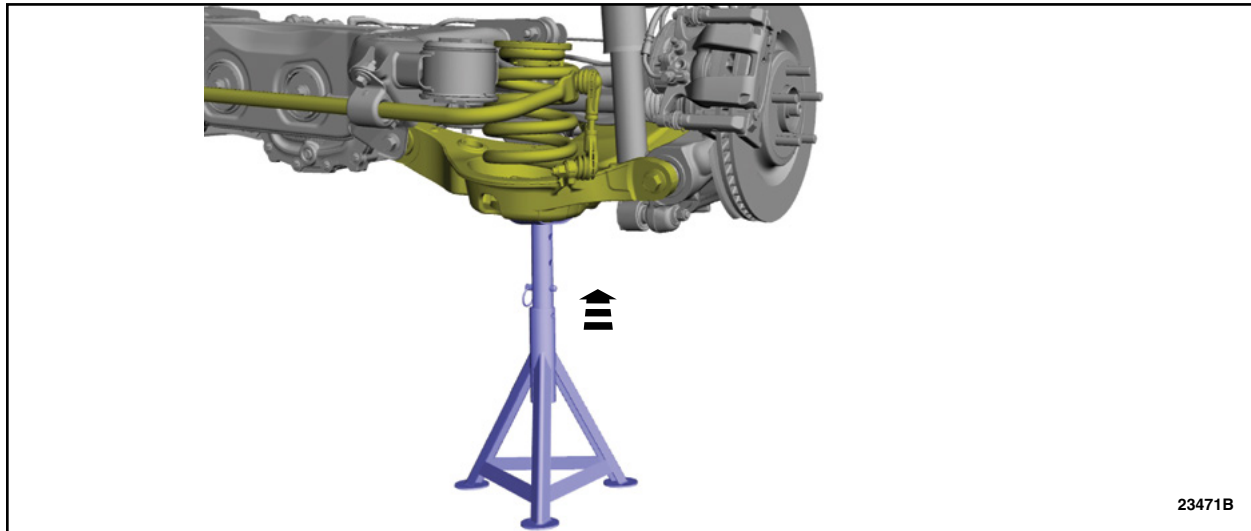

FIGURE 3
6. On the rear LH side of the vehicle, use a suitable jack to raise the suspension until the distance between the center of the hub and the lip of the fender is equal to the measurement taken in Step 3, (curb height). See Figure 3.